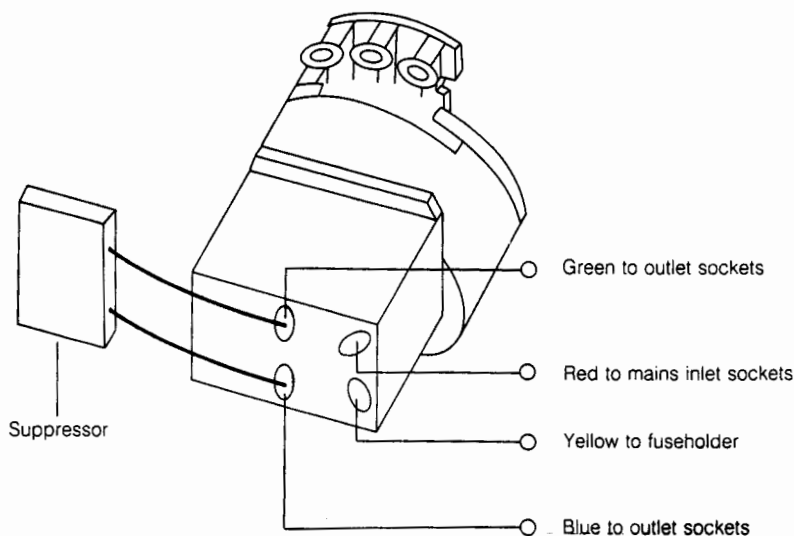

Fig. 2
2. Bend the mains switch tags on the Noble potentiometer backwards to avoid too close proximity to the chassis side plate. Connection to the mains switch are shown in Fig. 2